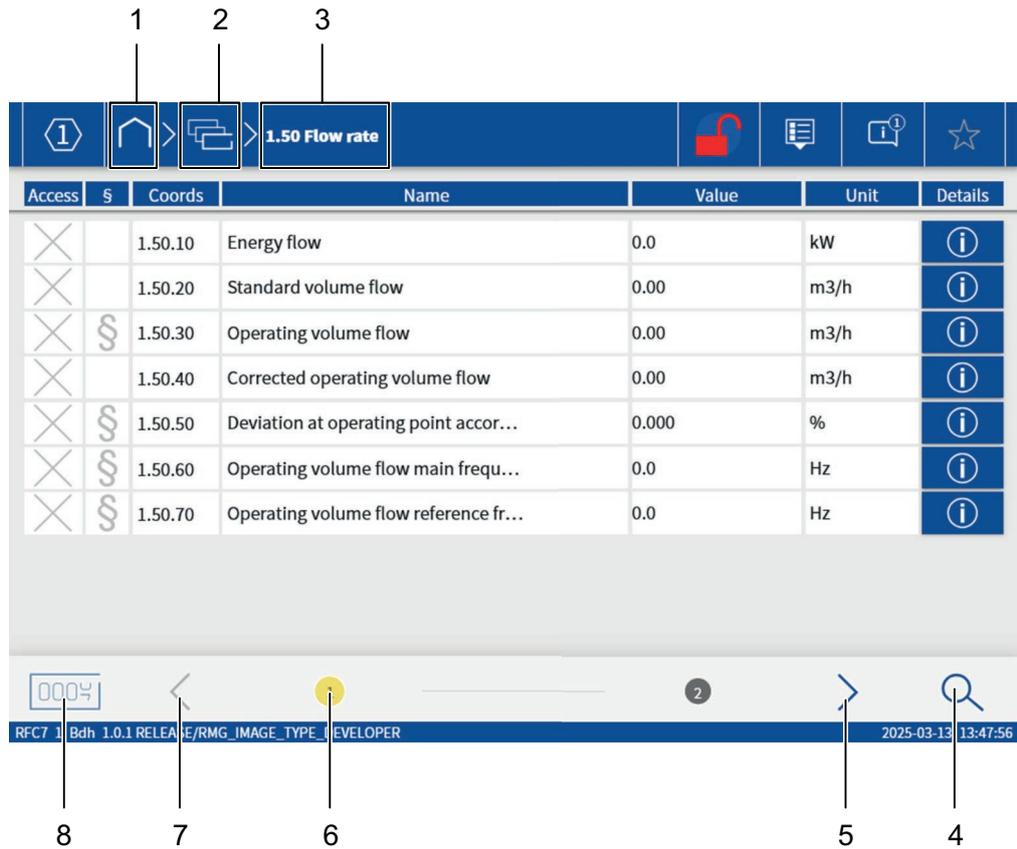

Fig. 34: Navigating between the menu levels and pages
To navigate back to the next higher menu level, the header with its buttons is available on each menu page (see fig. 34, items 1 - 3). You can navigate between the individual menu pages of a level using the buttons in the footer (see fig. 34, items 5 - 8).